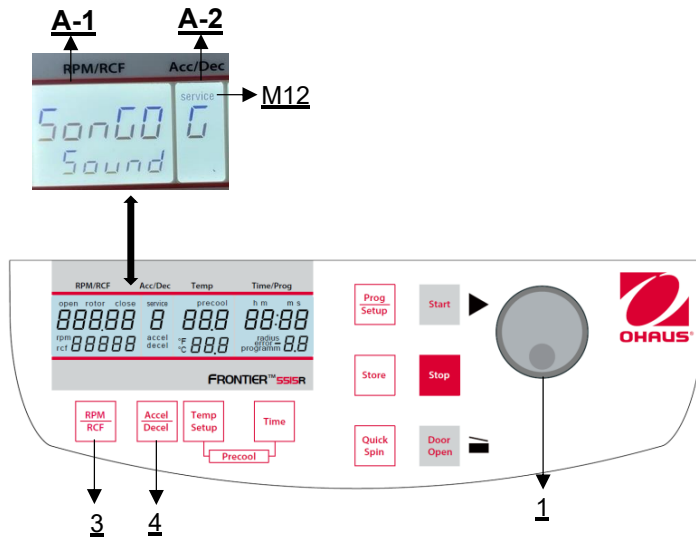

Figure 33
Proceed as described under point 4.1.1 to enter this program mode and then press the key **"Accel/Decel"** (4). In the display **"Acc/Dec"** (A-2) the word **"Service"** (M12) flashes. Now select the letter **"G"** with the adjusting knob (1). As a result, the words "SonGo/Sound" appear in the display **"RPM | RCF"** (A-1). After pressing the key **"RPM | RCF"** (3), you can select a song with the adjusting knob (1) (see Figure 33).